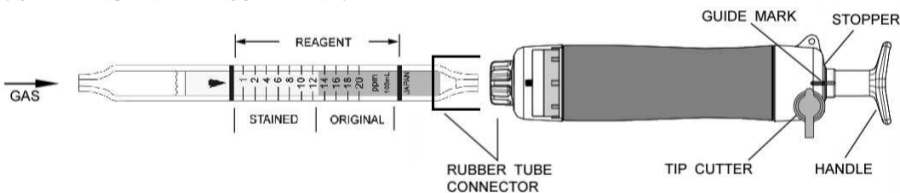

Fig.1
- ② Insert the detector tube into the aspirating pump securely as shown in Fig.1. (Arrow mark shall point to the pump.)
- ③ Align the guide marks on the handle and stopper of the aspirating pump.
- ④ Pull the pump handle at a full stroke until it locks and wait for 1 minute or until the completion of sampling is confirmed with the flow indicator of the pump. (See descriptions about the flow indicator in the instruction manual of the pump.)
- ⑤ On completion of sampling, read the scale at the maximum point of the stained layer.
- ⑥ When concentrations are below the scale range, multiple pump strokes can be used to determine these lower concentrations.